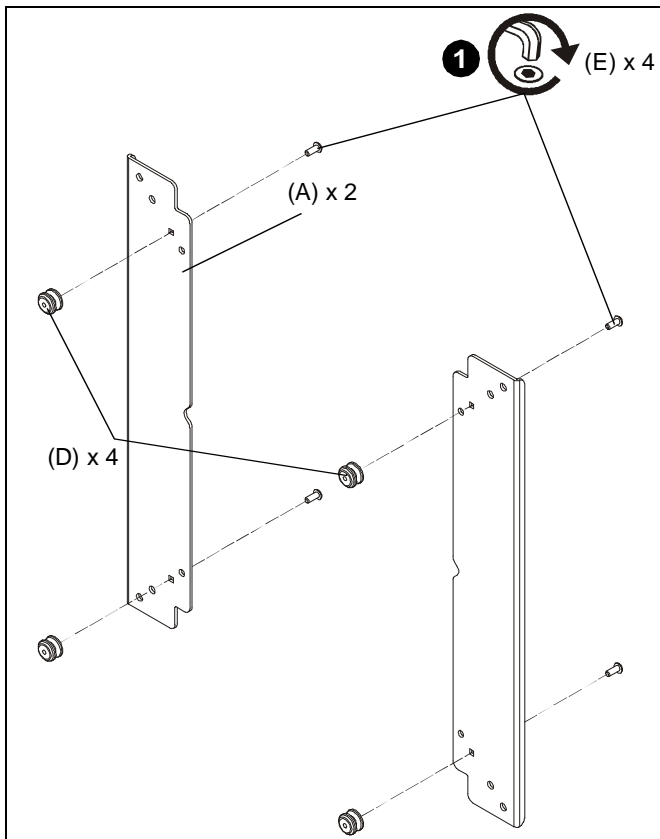

Figure 1
1. Attach mounting buttons (D) to interface bracket (A) using four #10-24 x 1/2" button head cap screws (E) and a 1/8" hex key (H). (See Figure 1)